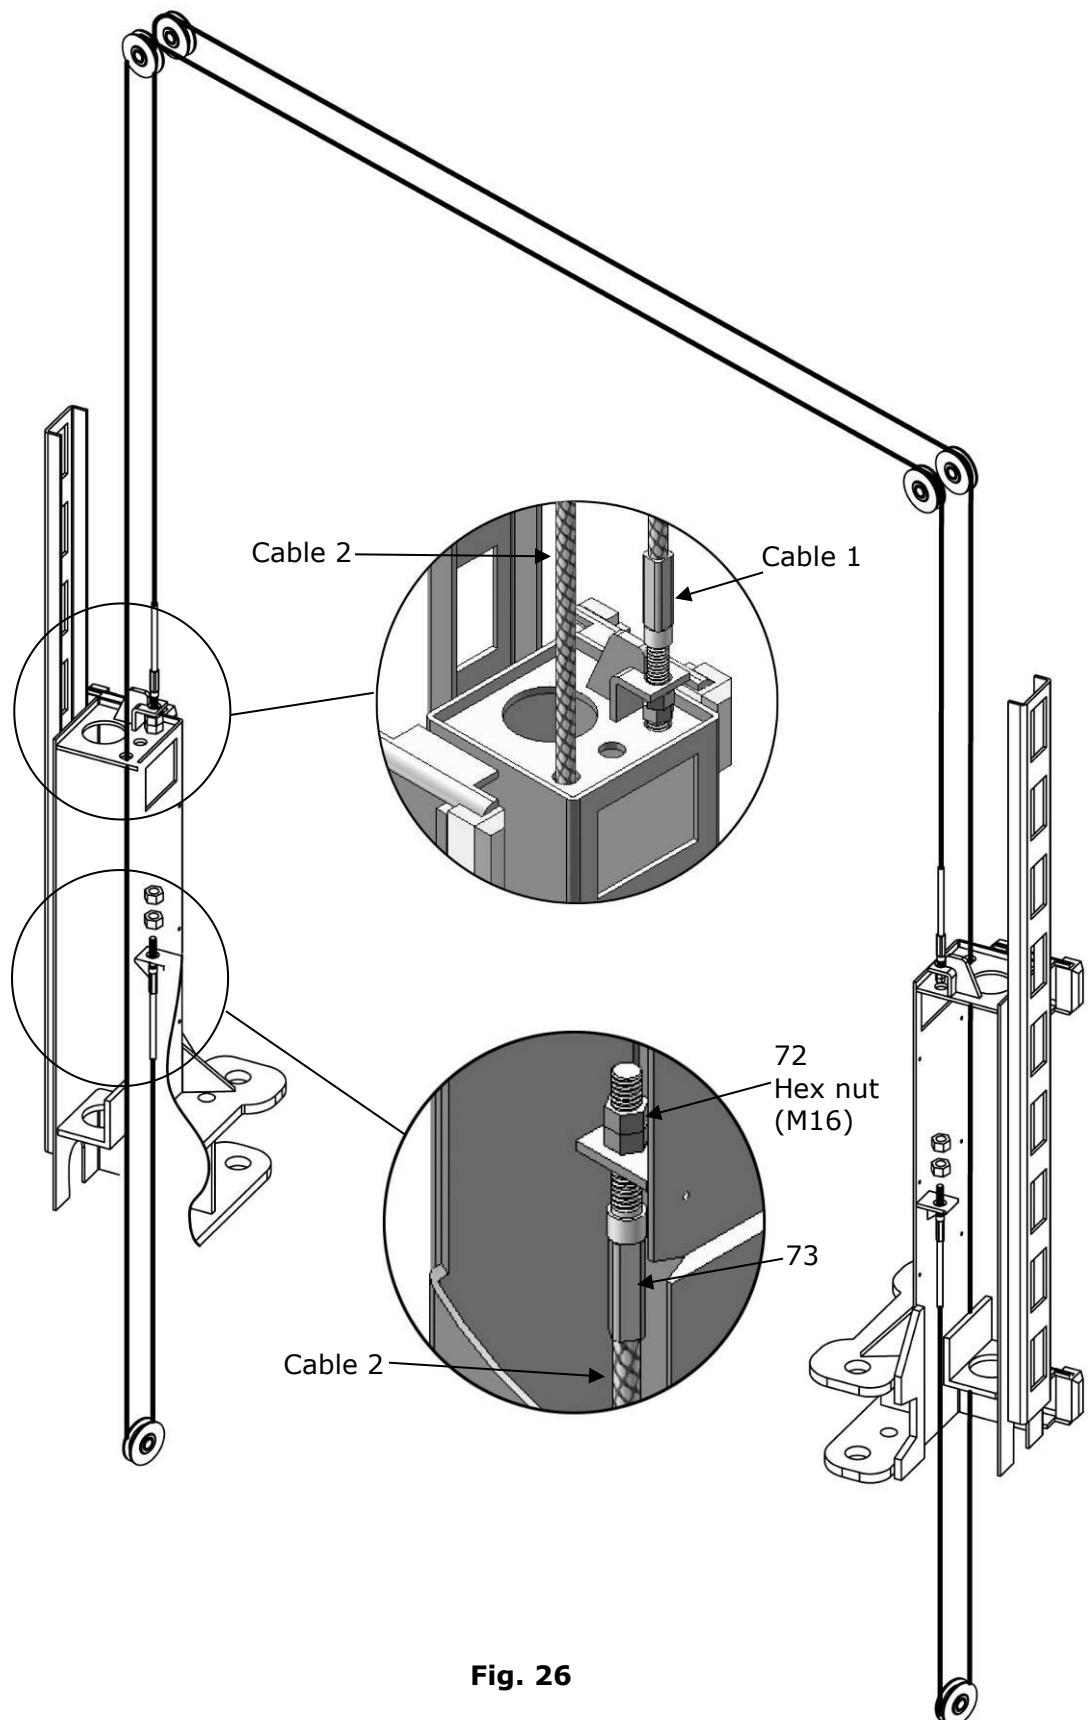

Fig. 26
2.2 Cable connection for high setting (**See Fig. 26**).